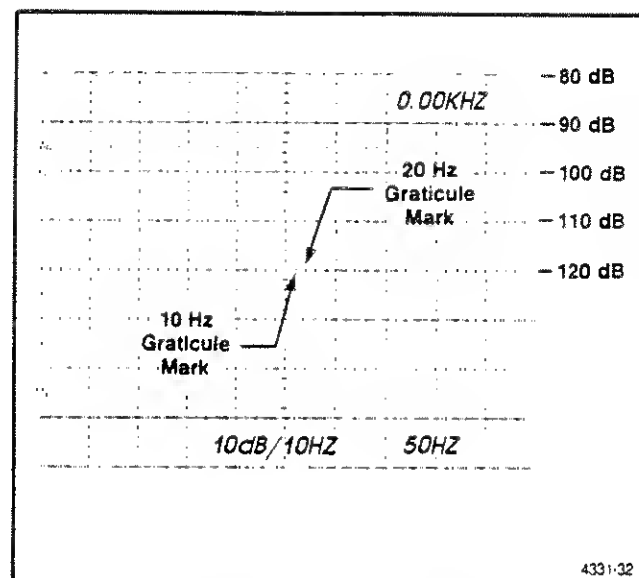

Fig. 5-4. 10 Hz null adjustment.
Adjust the 7L5 manual sweep dial to position the dot horizontally in line with the 10 Hz graticule mark (see Fig. 5-4).
b. Set the calibration fixture Mode to Notch (in) position and the Atten to 0 dB (out). Adjust the SG 5010 FREQ and the calibration fixture Adj for Null controls to position the dot vertical to the most stable point below the -80 dB level on the display. (See Fig. 5-4.)